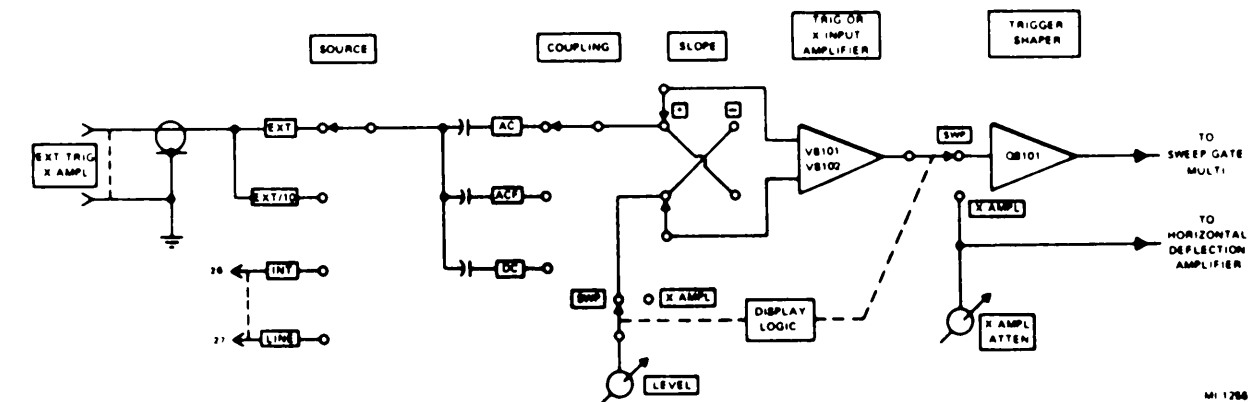

Figure 3-13. DA trigger X input circuit, functional block diagram.
a. When the DISPLAY LOGIC switch is set to X AMP, the EXT TRIG input connector of the delayed sweep becomes the X amplifier input. Simultaneously, the delayed sweep LEVEL control becomes the variable X AMPLIFIER ATTENUATOR control. The PULL EXT/10 setting provides 10:1 attenuation of the X input signal. Thus external signals may be applied to the X AMP front-panel BNC connector. These signals are coupled to X input amplifier V8101 and V8102. The output of this amplifier is coupled to the horizontal deflection circuit via the X AMP setting of the DISPLAY LOGIC switch (fig. 3-13). The output from V8102 is applied through a voltage divider network to the base of emitter follower Q8301 via the DISPLAY LOGIC switch.